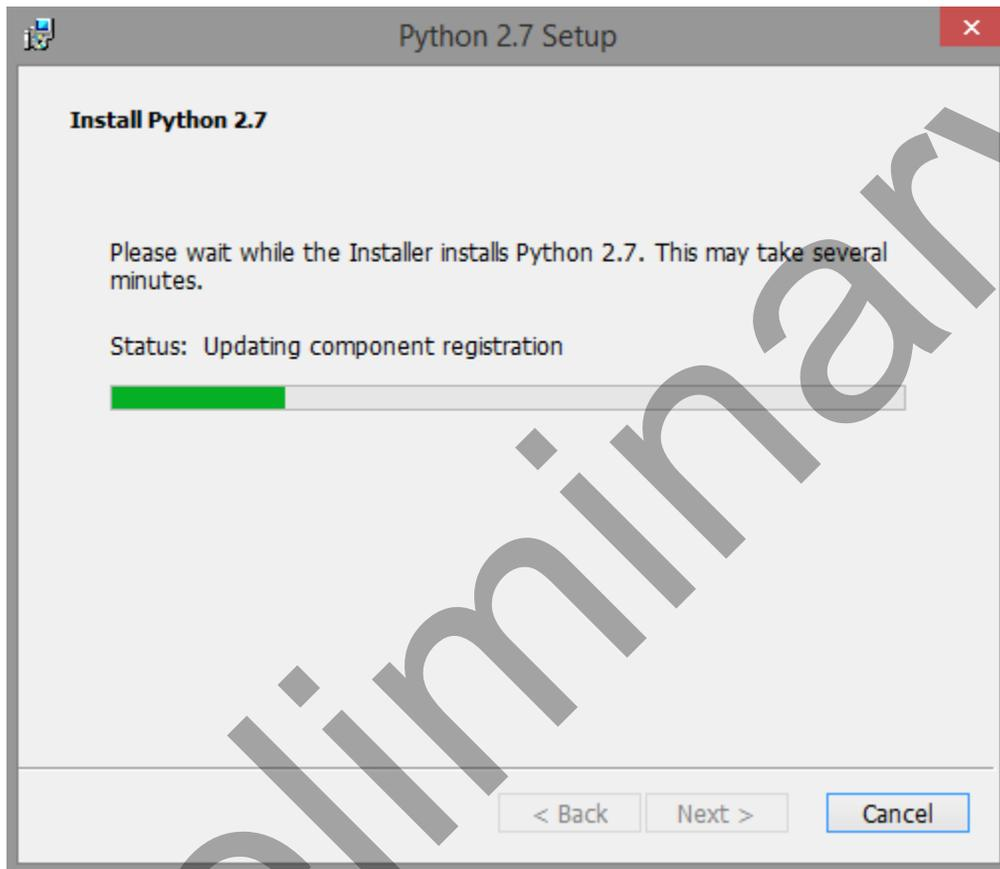

Fig 11: Python Installation Progress
9. Python installation will start. The progress will be shown as in *Fig 11: Python Installation Progress*